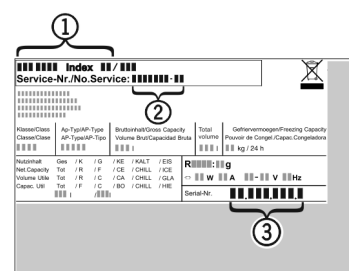

Fig. 12
- Read the appliance designation *Fig. 12 (1)*, service No. *Fig. 12 (2)* and serial No. *Fig. 12 (3)* off the model plate located inside the appliance on the left-hand side.
- Notify the customer service, specifying the fault, appliance designation *Fig. 12 (1)*, service No. *Fig. 12 (2)* and serial No. *Fig. 12 (3)*.